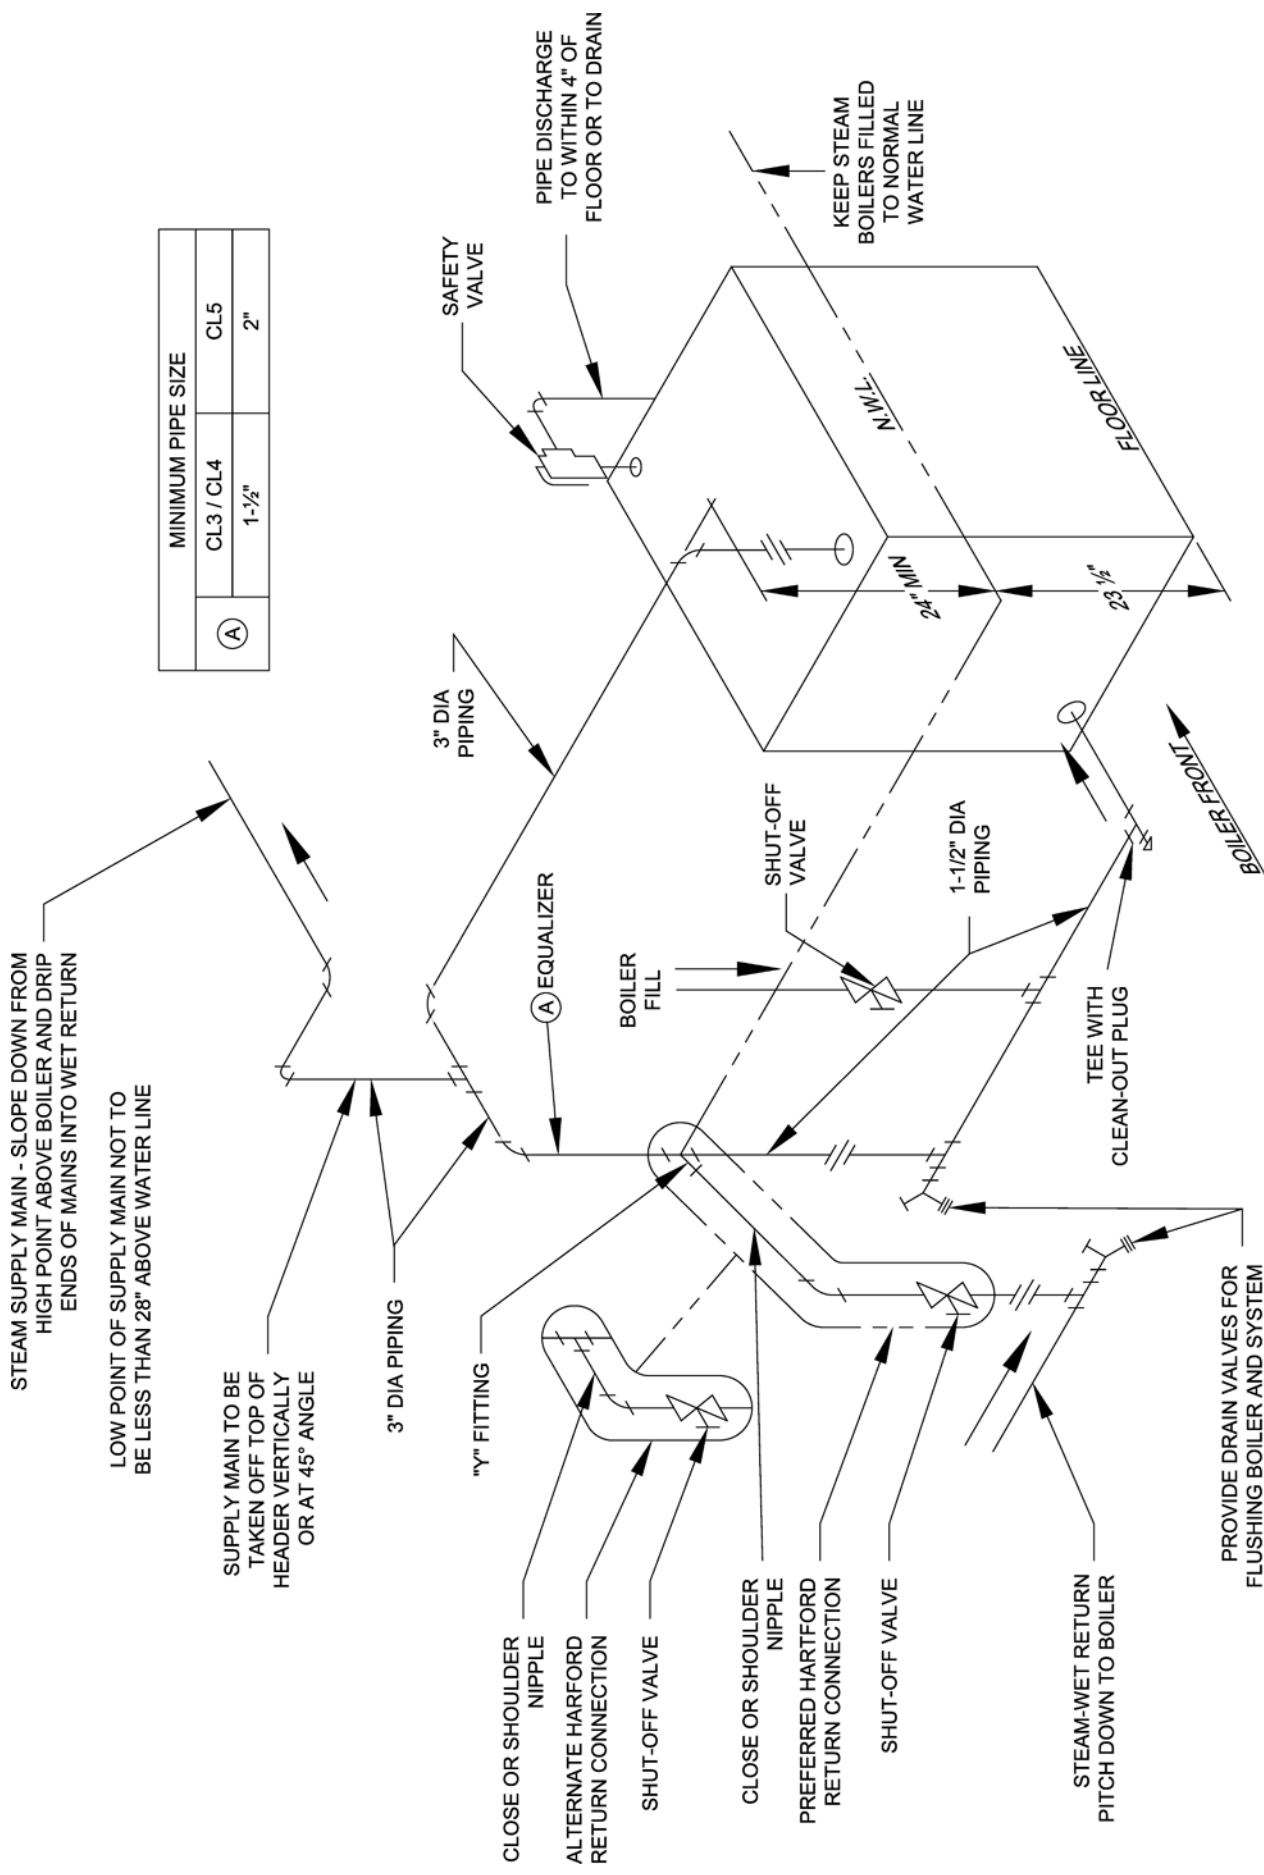

Figure 12: Recommended Boiler Piping for Gravity Return Steam Boiler
1. Thread 3/4" MPT safety valve and 3/4" NPT coupling onto factory installed 3/4" NPT x 7/4" nipple located in left rear corner on top of boiler as shown in Figures 1C and 1D. Tighten with wrench. Pipe discharge as shown in Figure 12. Installation of the relief valve must be consistent with ANSI/ASME Boiler and Pressure Vessel Code, Section IV.
2. Install 3/4" drain valve in wet return piping as shown in Figure 12.
- a. For Recommended STEAM BOILER PIPING refer to Figure 12. Also, consult Residential Hydronic Heating Installation and Design I=B=R Guide.
- 1. CONNECT Indirect Water Heater Piping** as shown in Figures 11A and 11B for water boilers and Figures 12 and 15 for steam boilers. Refer to Indirect Water Heater Instruction Manual for additional installation information.